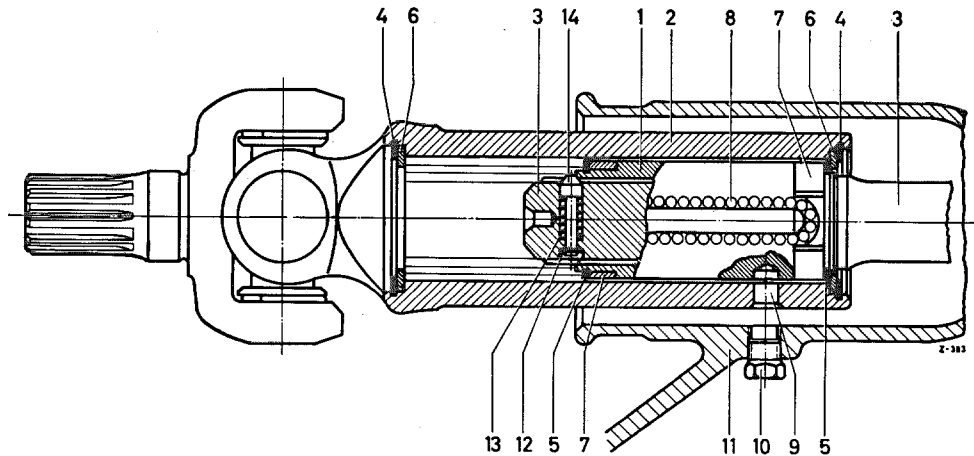

Fig 35 — 4/7 a
On recent models, a lock has been fitted to the right rear axle shaft in order to prevent any axial movement of the sliding sleeve. The lock consists of a lock pin (14) with pressure spring (13) (Fig. 35 — 4/7 a), fitted in the rear axle shaft. The lock pin fits behind the sliding sleeve which is thus prevented from being axially displaced.